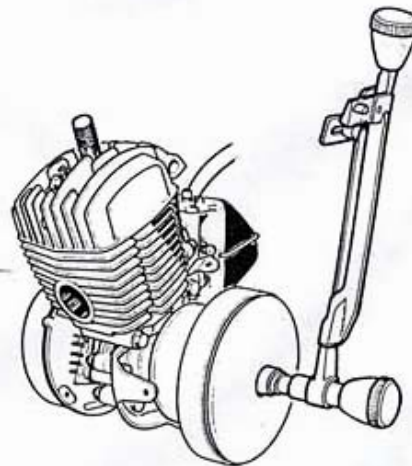

Fig. 5
- Tighten the nut to 22 ft. lbs. (torque wrench) after having applied a single drop of LOCTITE (fig. 5).